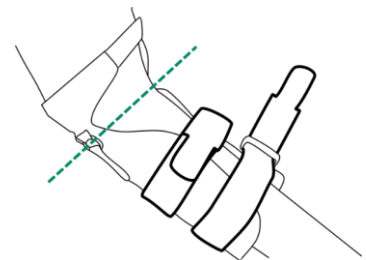

Figure 2
2. Align the two metal D-rings of the arm cuff with the elbow rotation axis (green dotted line) and close the Velcro (Fig. 2).